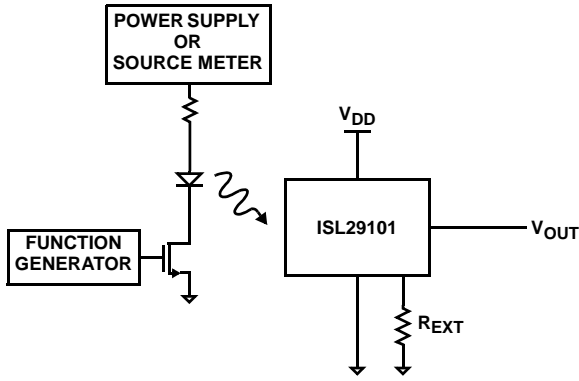

FIGURE 1. TEST CIRCUIT FOR RISE/FALL TIME MEASUREMENT
5. Switching time measurement is based on Figures 1 and 2.